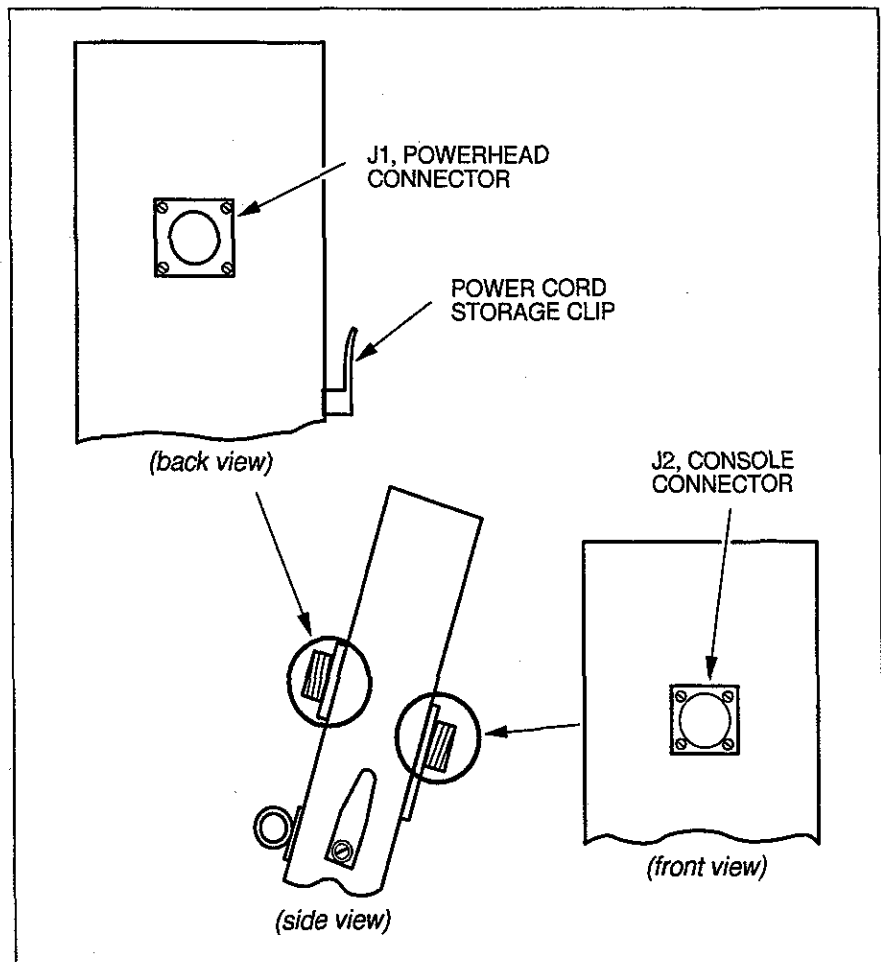

Figure 2-7
1. Locate receptacle J2 on the front of the injector column. Carefully align the pins on the console cable plug with receptacle J2; insert the plug into the receptacle. See Figure 2-7.
2. Locate receptacle J1 on the rear of the injector column. Carefully align the pins on the powerhead cable plug with receptacle J1; insert the plug into the receptacle. See Figure 2-7.